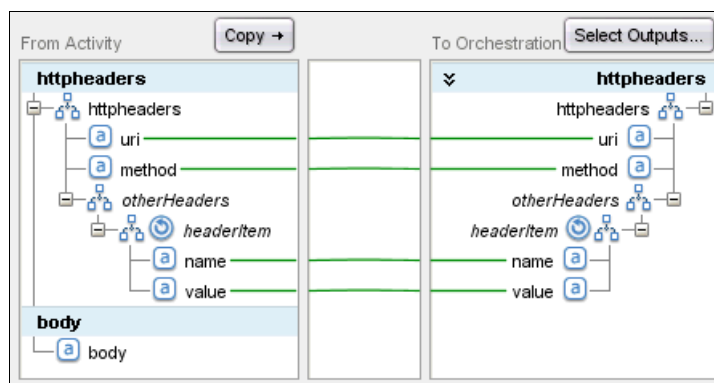
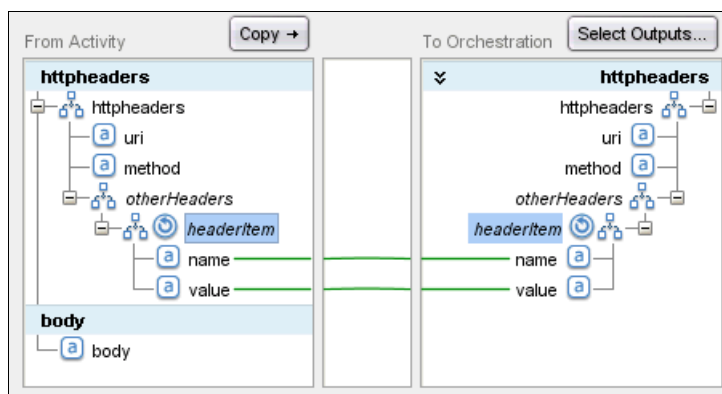

Figure 3-76 The Copy button created the variable *httpheaders* and defined simple mappings
Figure 3-77 The children of headerItem are mapped using bulk mapping
A variable is created and a simple mapping to this variable is defined, as shown in Figure 3-76. In this example, the variable *httpheaders* was selected.
If a source node has a complex data type and therefore contains child nodes, you can drag the source node to a destination node with the same structure and the mapping editor will define a map for every child node. This is called bulk mapping. In Figure 3-76, the following
A bulk mapping is defined if the httpheader's node, in the From Activity pane in Figure 3-76 on page 136, is dragged to the httpheaders in the To Orchestration pane that has the same structure. As shown in Figure 3-76 on page 136, all of the children of the httpheader's source node are mapped to the corresponding children of the httpheader's destination node.
If the headerItem node in the From Activity pane is dragged to the headerItem node in the To Orchestration pane, only the children of headerItem are mapped, as shown in Figure 3-77. These mappings can be created by dragging each source child node to the corresponding destination child node individually, but using bulk mapping can be much quicker for nodes with large numbers of children.
The mapping editor can also perform automapping. Automapping scans the field nodes in the left pane and creates a map to one field node in the right pane with the same name. Case and punctuation are ignored. If there are two or more field nodes of the same name in either pane, automapping cannot be performed. To use automapping, click **Map** → **Automap**. Automapping defines the mappings in Figure 3-76 on page 136 and not those in Figure 3-77, where the uri and method fields were left unmapped.
*Recurring nodes* are nodes that contain lists of data, for example a list of customers or addresses. A recurring node can have a complex data type. The node headerItem in Figure 3-77 is a recurring node with a complex data type. It contains a list of name/value pairs.